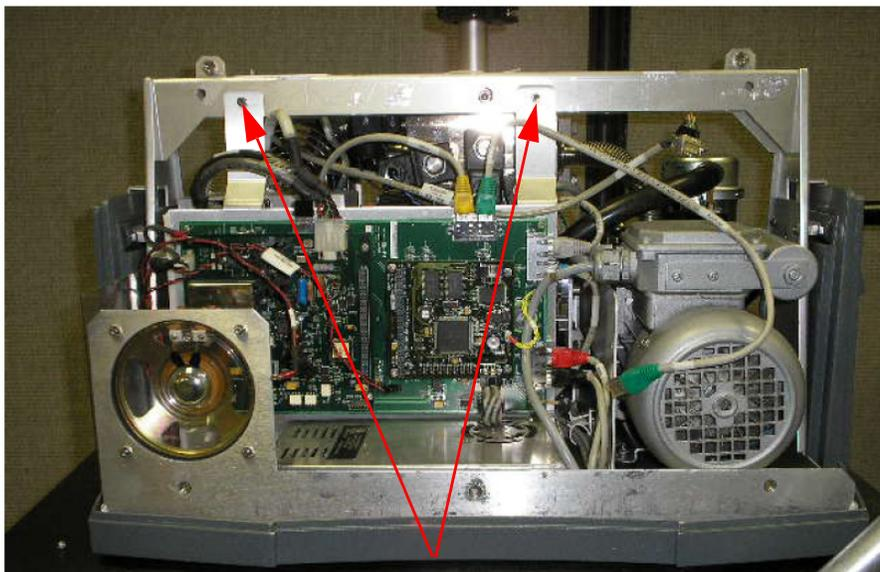

Figure 1-7 Electronic Assembly Screws
9. Remove the two 3 mm hex screws holding the VS electronic assembly in place (Figure 1-7).